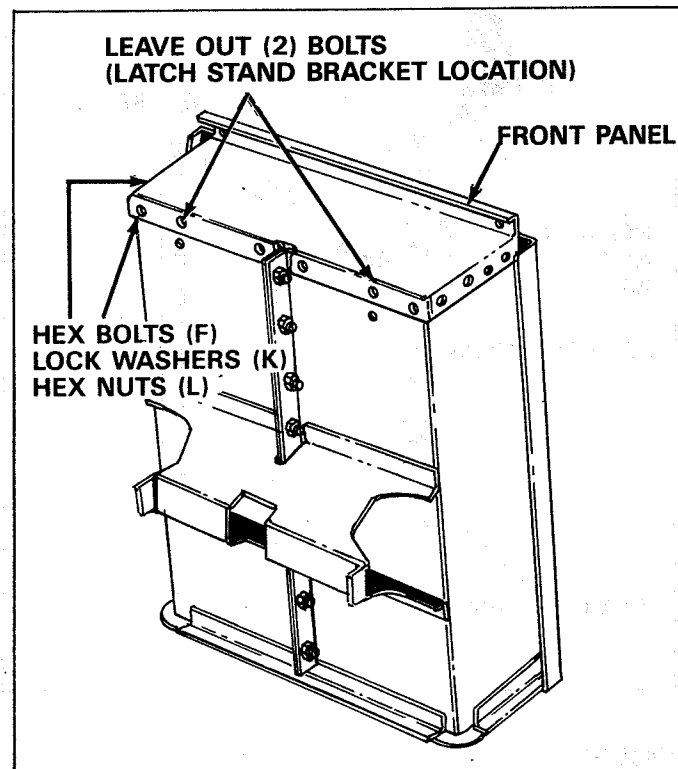

**FIGURE 6**
11. Reverse the cart position and stand on tailgate reinforcement bracket and proceed with assembly steps 12 through 20. See figure 6.